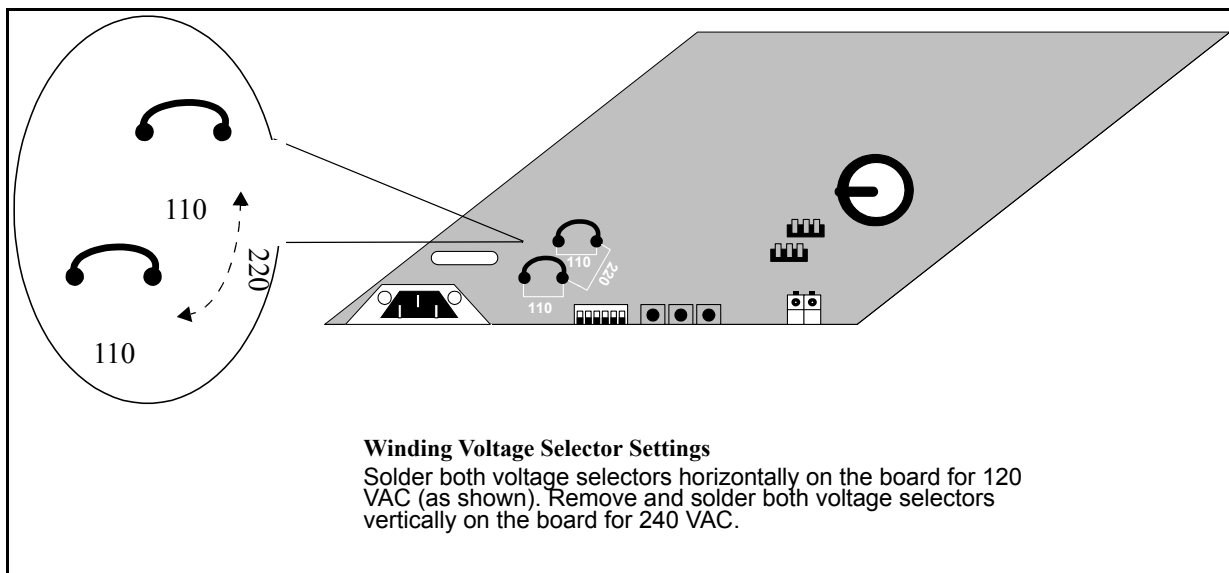

Figure A-1. Location of Dual Primary Winding
See Figure A-1.
3. Solder both voltage selectors horizontally on the board for 120 VAC or vertically for 240 VAC. See exploded diagram in Figure A-1.